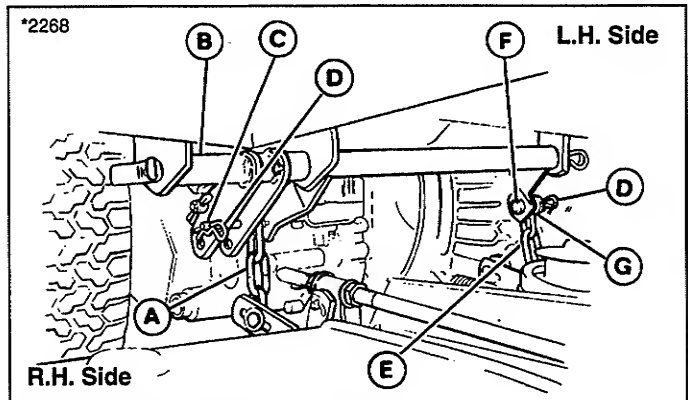

Figure 8. Mower With Electric Lift
**Electric Lift.** See figure 8. Connect the mower lift chains (A & E) to the tractor lift arm (B) using the clevis pins, washers and safety clips. Install the shorter clevis pin (F, figure 8) on the left side as shown.